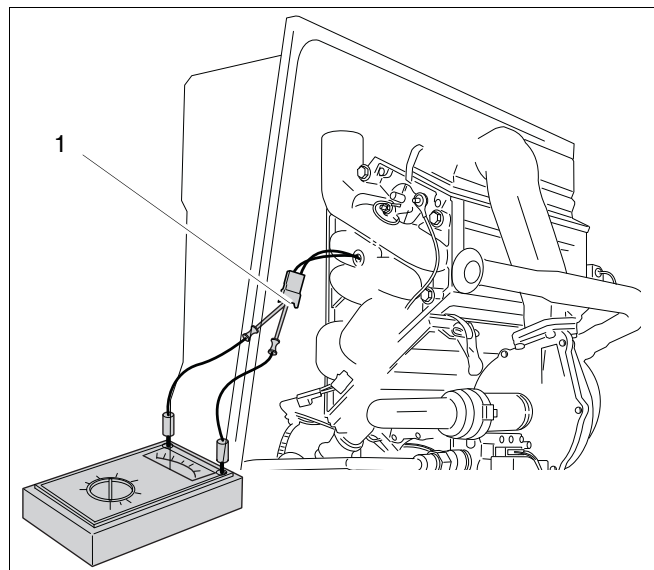

fig. 15 Checking the safety sensor
Safety sensor see fig. 15, pos. 1.